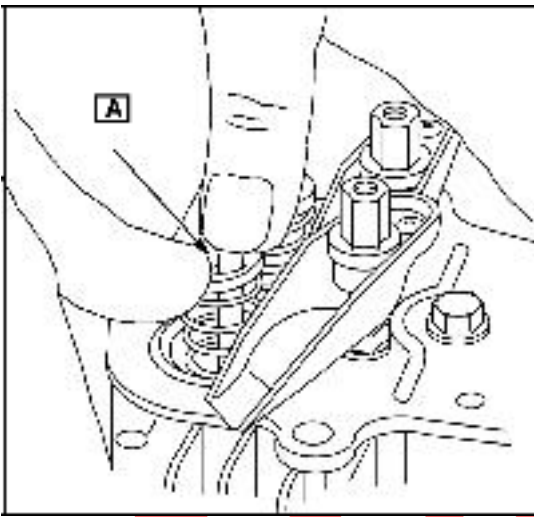

Fig. 23
Place retainer (A) on spring. Depress retainer with thumbs to compress spring, Fig. 23.